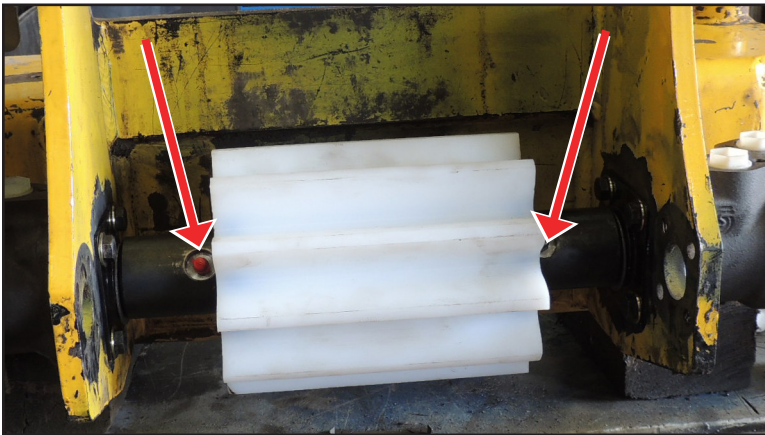

Figure 19
20. Grease the couplers on the gear with EP No. 2 lithium grease (Figure 19).